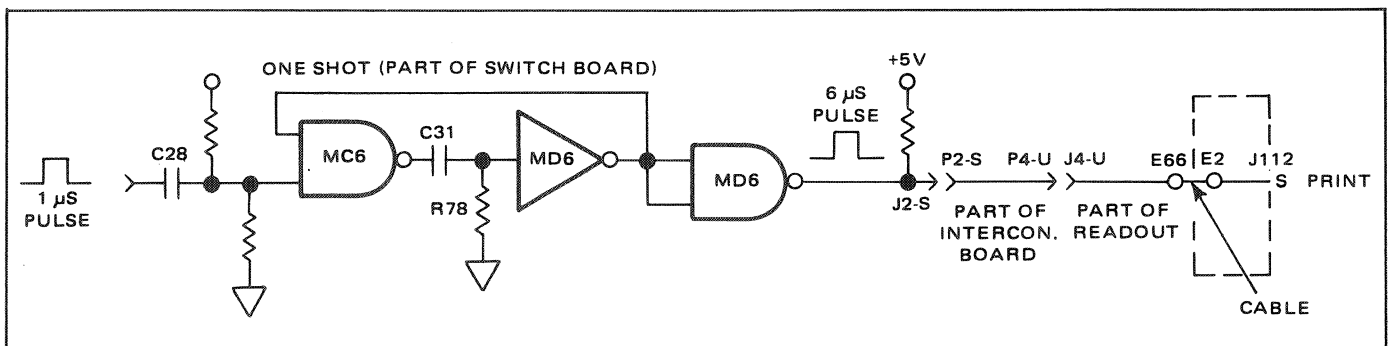

Figure 3.3 - Print Command Circuitry
3.12 The print line is picked up on the readout board at terminal E66 but the circuitry generating the signal is located on the switch board as shown in figure 3.3. The circuitry consists of a 6 microsecond one-shot generator. Normally, the output of the circuitry is at logic 0 with both inputs of NAND gate MC6 at logic 1. The falling edge of a